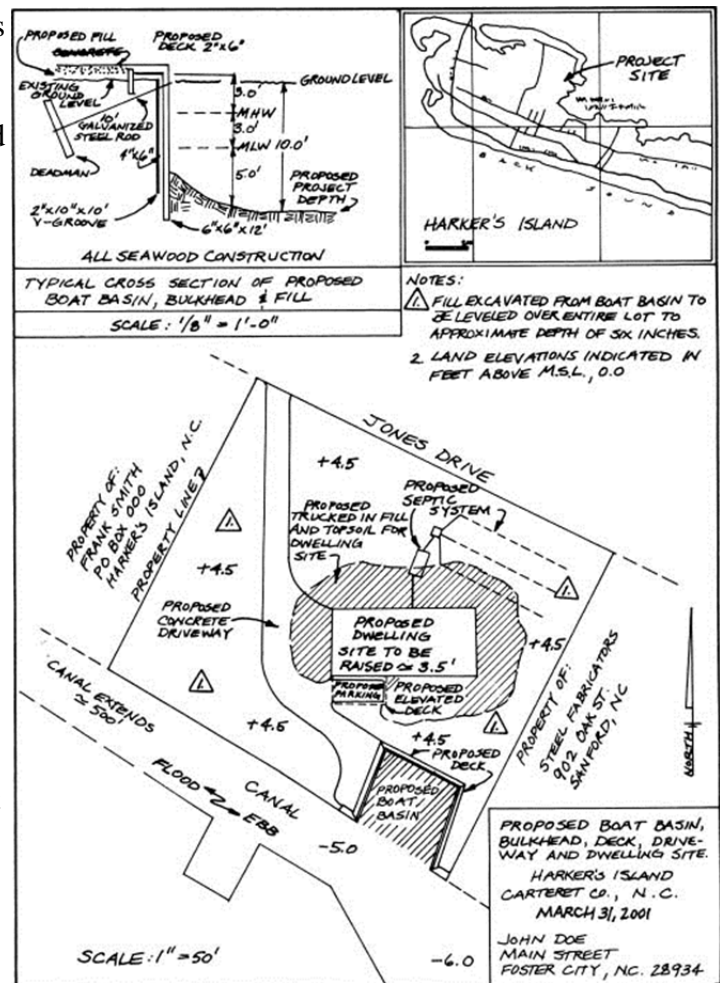

Figure 5.1
9. The permit application must be accompanied by a vicinity map and work plats (see Figure 5.1). These drawings, prepared by you or by a surveyor, engineer or architect, are part of the permit application and must be prepared as described below:
- Each drawing must include a title block that identifies the project, the name of the applicant, the date the plat was prepared, who prepared the drawing and the project scale (see Figure 5.1).
- All maps and plans must include a north arrow (see Figure 5.1). North should be at the top of the drawing. The vicinity map is a small-scale map showing the location of the work site. You may use a U.S. Geological Survey chart, a survey map or a county road map. An aerial photo is helpful but not required. The map should show the project's location (see Figure 5.1) and should identify the source and title of the map. *The map must contain enough detail that someone unfamiliar with the area can find the project site.*
- Arrows must indicate the directions of ebb and flood tides and the flow directions of streams (see Figure 5.1). The work plat must show property boundaries as they appear on the deed and the names of adjacent property owners.
- The work plat must also clearly indicate and describe any areas to be excavated or filled, including the exact location of spoil disposal sites (see Figure 5.1).
- When fill is to be placed behind a bulkhead or dike, the plan must show that the structure will be adequate to confine the fill (see Figure 5.1). The depth of excavation below the mean low water mark or normal water level and the cubic yards of material to be removed also must be indicated.
10. A cross-section diagram is required for each proposed excavation, fill or structure, including bulkheads, dikes and spoil retention works. The cross-section diagram should show the depth of the excavation (or the elevation of the fill) relative to the existing ground level, the mean high water level and the mean low water level (see Figure 5.1). The mean low water line should be the reference for other water depths and land elevations shown on the plat.